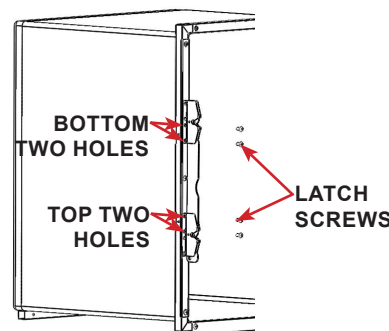

FIGURE 3.6 - Latch Assembly Installation
**STEP 5:** Install the latch assembly to the cage frame, tighten screws to secure the latch to the frame. See FIGURE 3.6